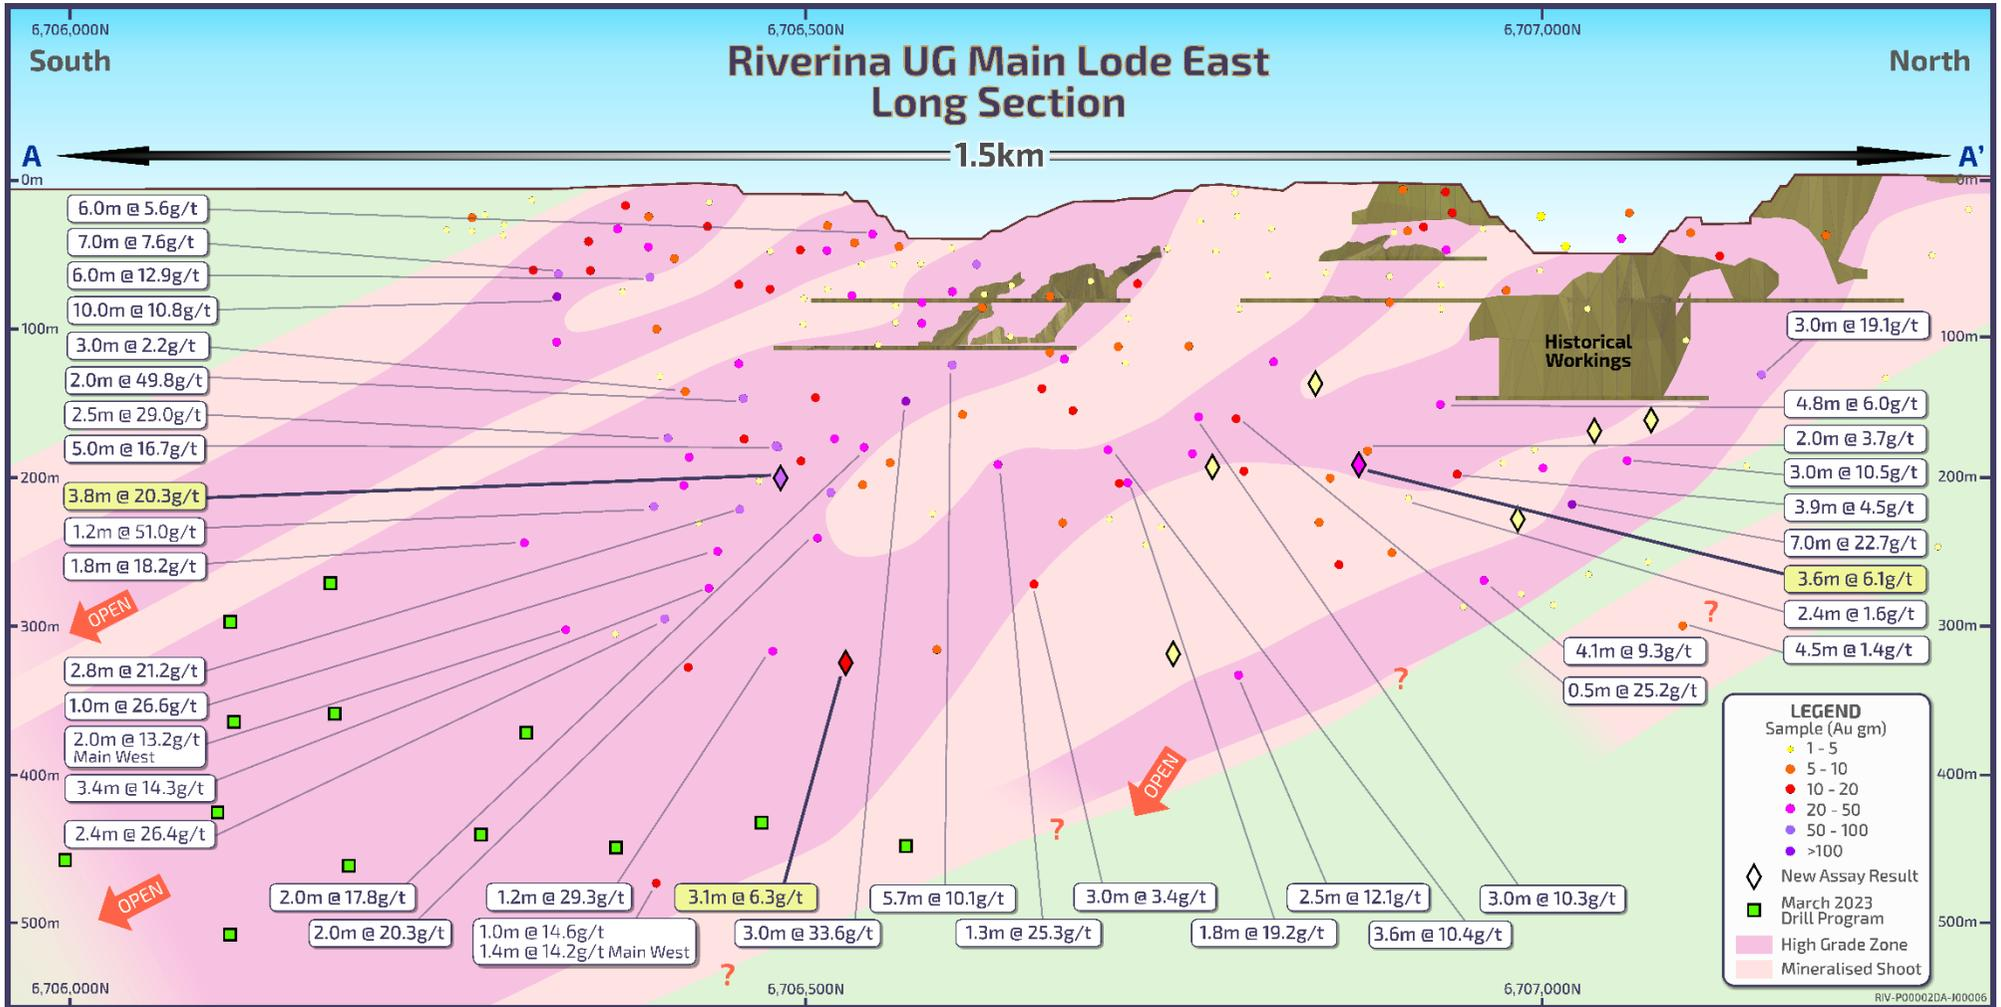

Figure 1 - Long Section of Main Lode East
- New significant intercepts (see Figures 1, 2 and 3) include: